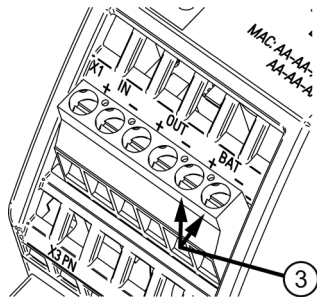

Figure 6-4 BAT connection
The "BAT+" and "BAT-" ③ connections (see Figure 6-4 BAT connection (Page 109)) are used to connect the UPS1600 with one or more UPS1100 battery modules. Ensure that the cables are dimensioned correctly for the maximum output current rms value of the UPS1600.